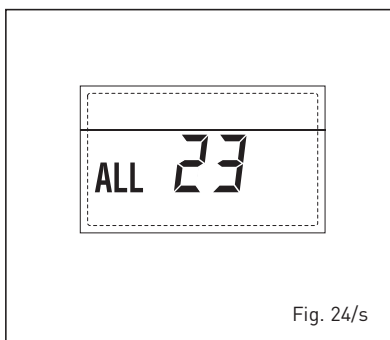

Fig. 24/s
- ANOMALIA GUASTO SONDA COLLETTORE SOLARE S1 "ALL 24" (fig. 24/t)